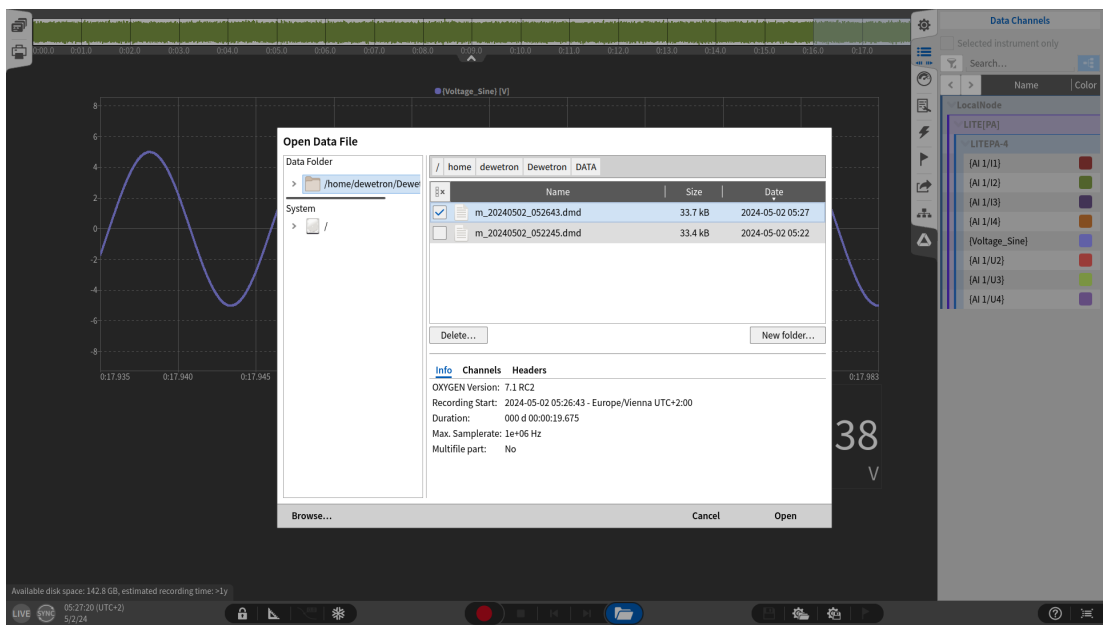
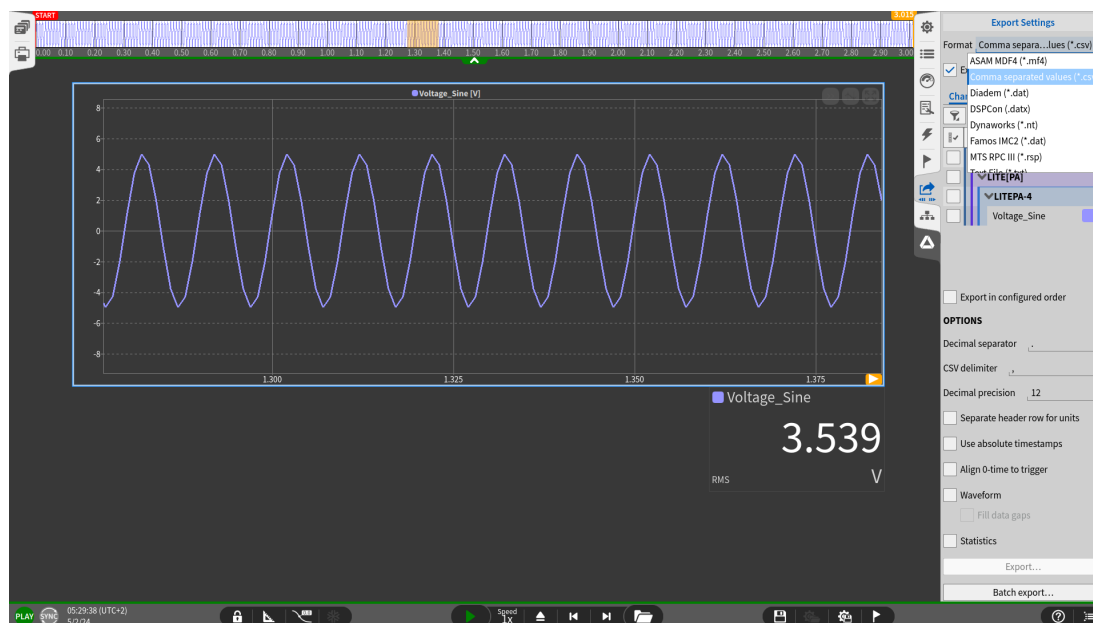

Fig. 30: Opening data file
Fig. 31: Exporting data file for post-processing
1. Click on the file button, and select the corresponding file (see Fig. 30). The green border and PLAY indicator in the lower left corner indicate that a file is loaded for post-processing (see Fig. 31).
4. Click on the export button seen in Fig. 31.